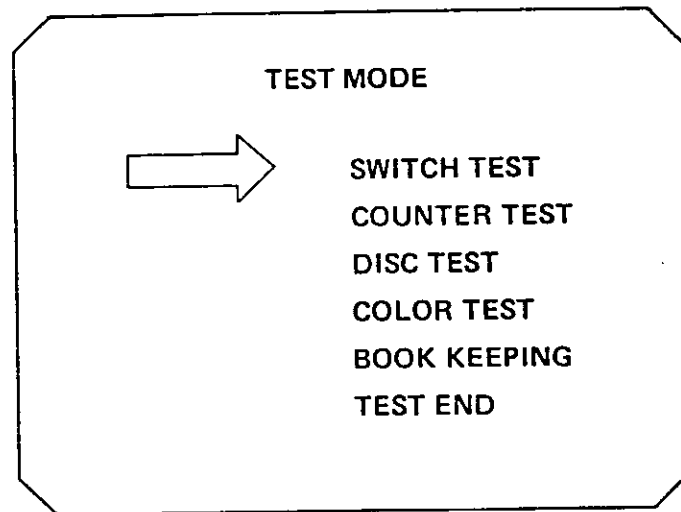

Fig. 11 "Test Mode"
(If you want to terminate the "Switch Test", depress the test switch for 2 seconds; the display will be reset to that shown in Fig. 11.)
(If you want to exit the "Counter Test", set  $\square$  at "COUNTER TEST END", and hold the test switch for 2 seconds; the display will be reset to that shown in Fig. 11.)
(If you want to terminate the "Disc Test", keep pressing the test switch for 2 seconds; the display will be reset to that shown in Fig. 11.)
(To exit the "Color Test", set  at "COLOR TEST END", then press the test switch for 2 seconds; the display will be reset to that shown in Fig. 11.)
(If you want to terminate the "Sound Test", set  $\Rightarrow$  at "SOUND TEST END", then press the test switch for 2 seconds; the display will be reset to that shown in Fig. 11.)
**Note:** Once you turn OFF power, all data is cleared. If you want to terminate "Book Keeping", set  $\Rightarrow$  at "BOOK KEEPING END", then continue pressing the test switch for 2 seconds; the display will be reset to that shown in Fig. 11.